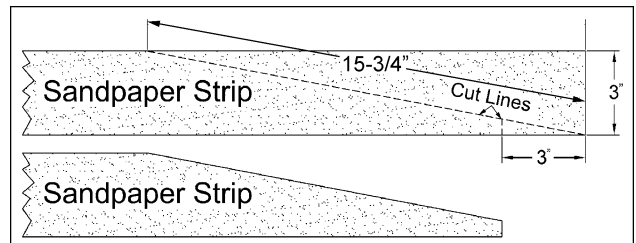

Fig. 7
1. Mark and cut a taper at one end of the roll, as shown in Figure 7.
2. Square off the end of the taper, as shown in Figure 7.
3. Remove the abrasive strip and cut a taper as was done with the starting edge, (See Figure 7). **Note:** The taper on the remaining roll can be used as the taper for the starting edge of the next strip to be cut.